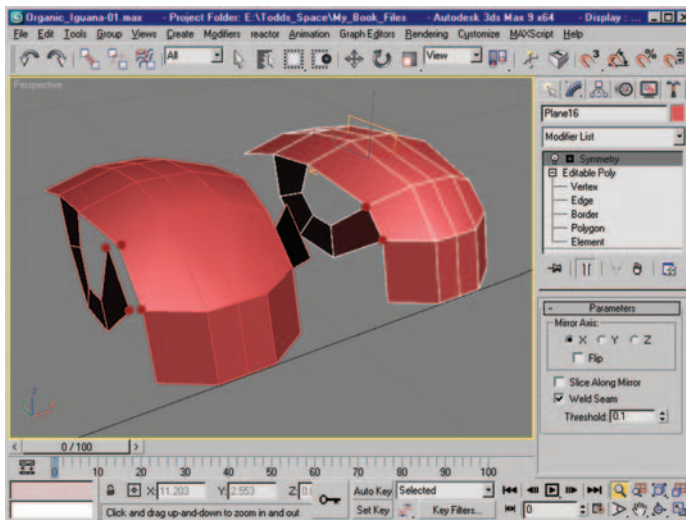

Figure 9.7 Vertex selection before and after welding.
7. After the last shift–drag, you are left with four vertices that need to be welded to create a single flowing surface. Figure 9.7 shows the verts before and after welding. To weld vertices, simply select them, and click on Weld or the Weld settings button. If Weld alone does not weld them, adjust the Weld Threshold value in the settings dialog box until you get the desired result.